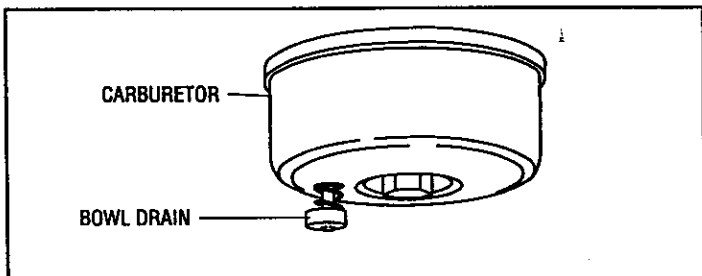

Figure 6
### ① CARBURETOR (see Figure 6):